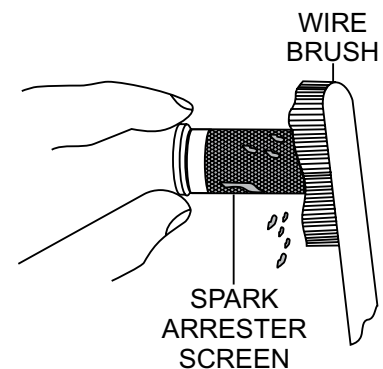

Figure 37. Cleaning The Spark Arrester
3. Carefully remove carbon deposits from the spark arrester screen (Figure 37) with a wire brush.